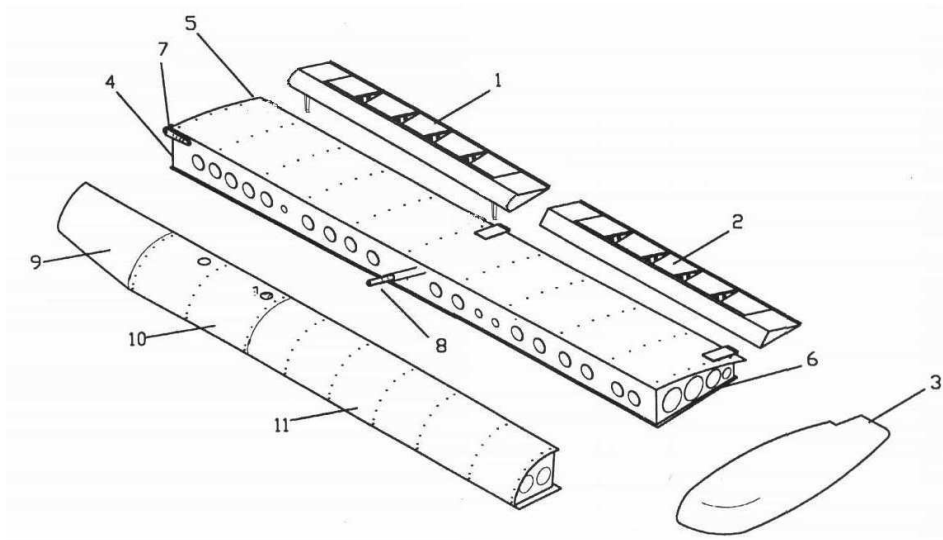

Figure 4-2 Wing structure
The torsion box, as shown in figure 4-2 and with reference to numbers in parenthesis, consists of a main spar (4) and a fake spar (5) that makes up its front and rear vertical walls; a series of ribs (6) and wrap-around panels complete the structure.